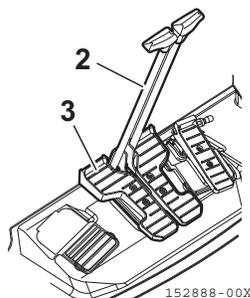

Fig. 3-55
1. Set the left and right travel levers (**Fig. 3-55, 2**) or pedals (**Fig. 3-55, 3**) to the neutral position to stop the machine.